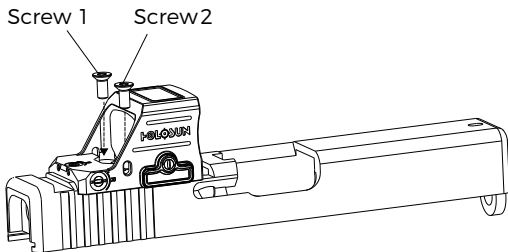

Figure 6
2. Use the included screws or those supplied with the slide cut/ adapter plate to tighten to 15 in/lbs using a non-permanent (medium/blue) thread locker (See Figure 6).